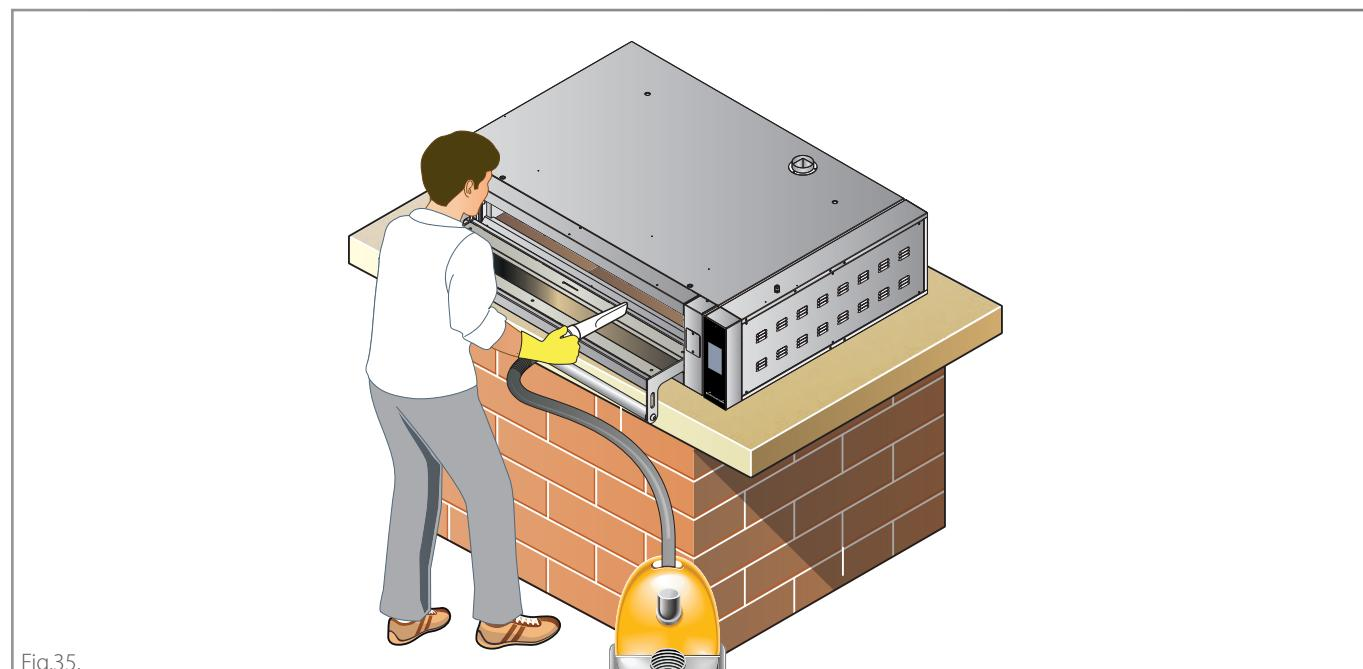

Fig.35.
(E) when the oven is cold, suck any burnt residue with an ash vacuum cleaner ► Fig.35.